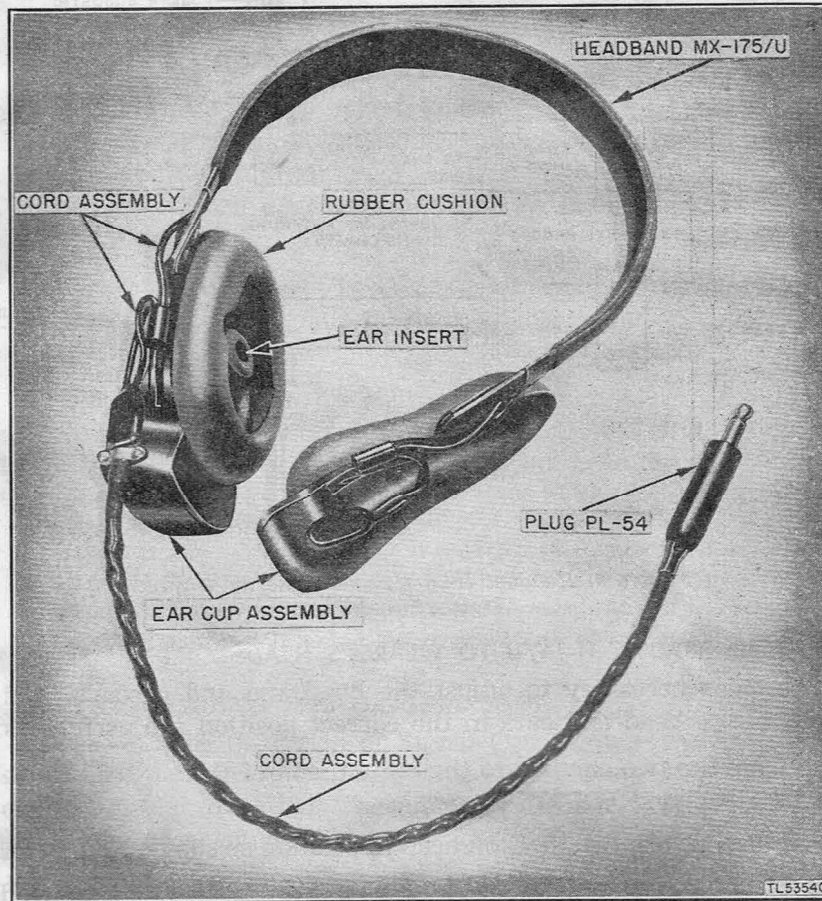

Figure 2. Headset H-16/U, showing component parts.
a. **Headband MX-175/U (fig. 2).** Headband MX-175/U is a soft vinylite-covered, spring-steel band with a 12½-inch cord assembly inclosed in the rubber cover. Two adjustable, sliding brackets are attached to each end of the headband on which the earcups are affixed. The sliding bracket allows the earcups to be extended or retracted along the headband, to enable the wearer to adjust the earcups to fit over the ears and allow the ear inserts to fit comfortably into the ear openings. The headband is constructed as one piece; none of the parts are removable. The steel band will sustain bending to aid in fitting the headset to the contour of the wearer's head.
b. **Earcup MX-239/U and MX-240/U (fig. 2).** Earcup MX-239/U consists of an irregular-shaped magnesium casting and a right earcup assembly. The earcup assembly consists of a soft neoprene ear cushion, shaped to envelop the right ear and fasten to a steel